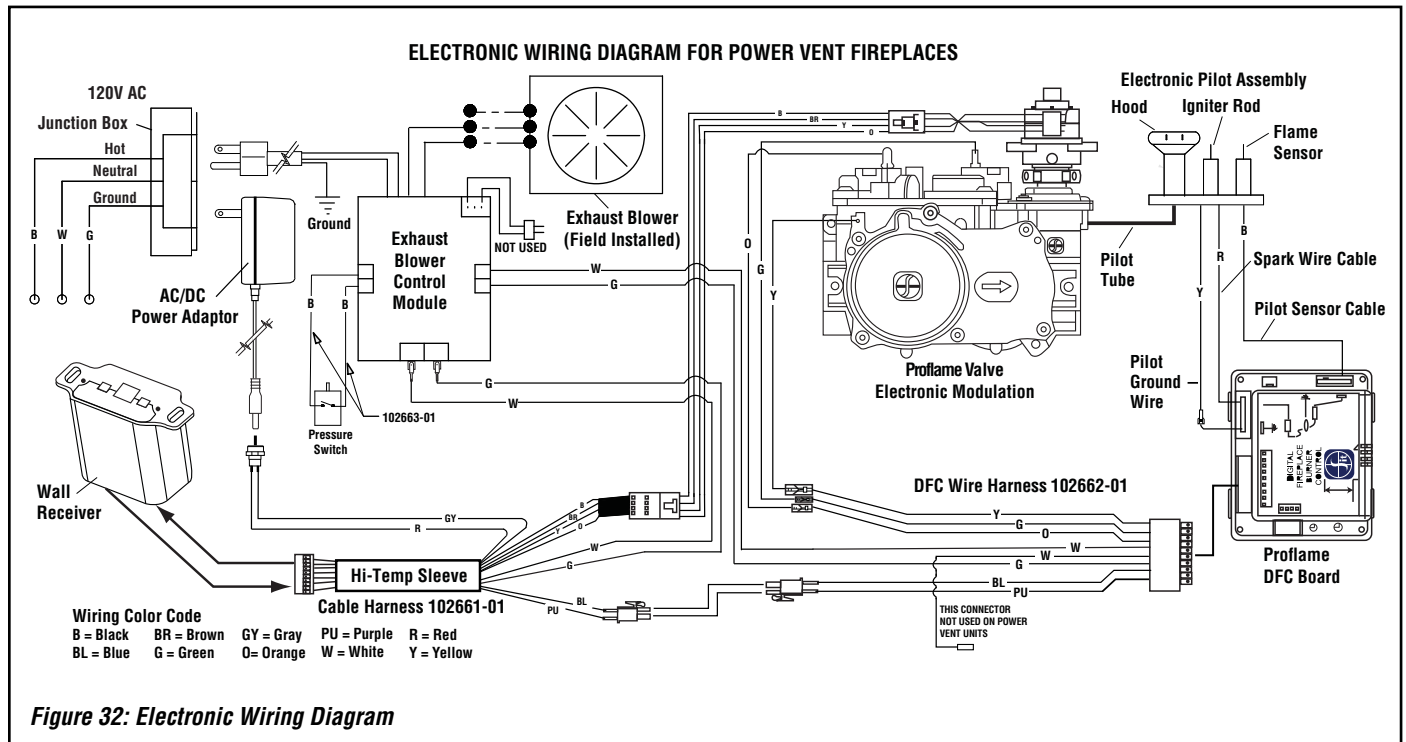

Figure 32: Electronic Wiring Diagram
CAUTION: Ground supply lead must be connected to the wire attached to the green ground screw located on the outlet box. See Figures 32 and 33 on Page 24. Failure to do so will result in a potential safety hazard. The appliance must be electrically grounded in accordance with local codes or, in the absence of local codes, the National Electrical Code, ANSI/NFPA 70-latest edition (In Canada, the current CSA C22.1 Canadian Electrical Code).
Wiring: Fireplace (See Figures 32 and 33 on Page 24)
- Refer to Figure 32 on Page 24 and install the electrical hardware on the fireplace end of the Romex wiring. Male terminals (#10) on the Black and White wires, and ring terminals (#9) on the ground wire. The termination end of the Romex will be connected to the termination with wire nuts (not provided).